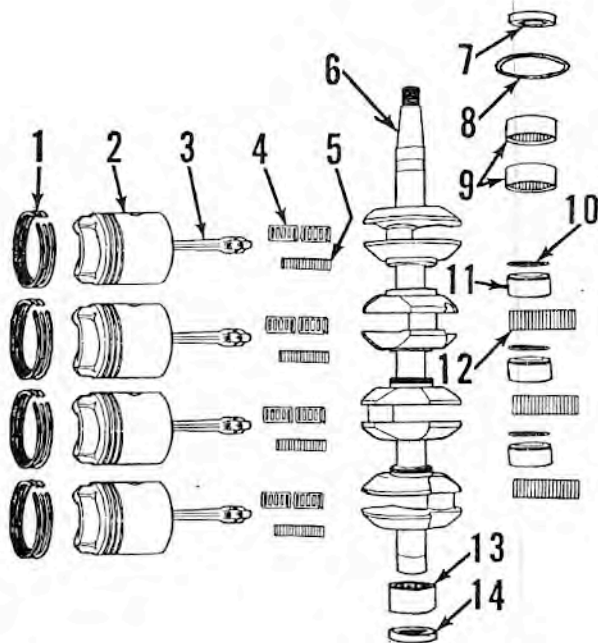

Fig. WB84 — Crankshaft, pistons and associated parts used on Tiger Shark.
The crankshaft upper main bearing consists of two identical caged needle roller bearings (9—Fig. WB84). The intermediate main bearings consist of 18 loose needle rollers (12), a split outer cage (11) and a retaining ring (10). The outer cage is separated by fracturing as previously described for the connecting rod. When assembling the bearings, install the retaining ring groove toward bottom of crankshaft, and work the cage halves back and forth slightly until fractured parting lines mesh;